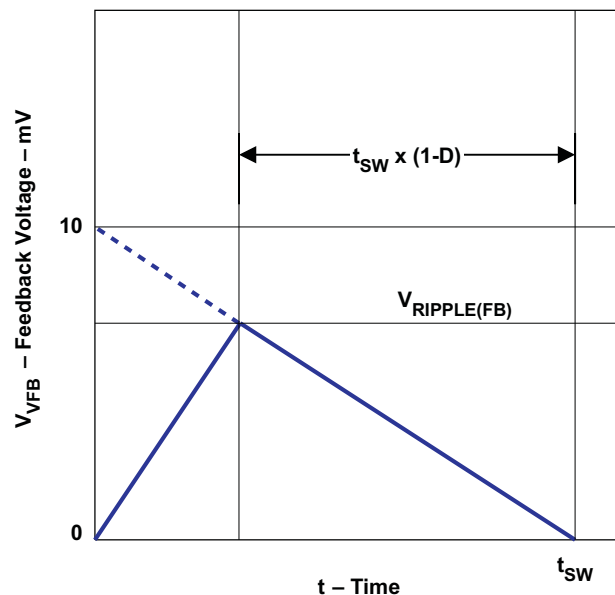

Figure 15. Ripple Voltage Down Slope
- the output ripple down slope rate is 10 mV/ $t_{\text{SW}}$  in terms of VFB terminal voltage as shown in Figure 15